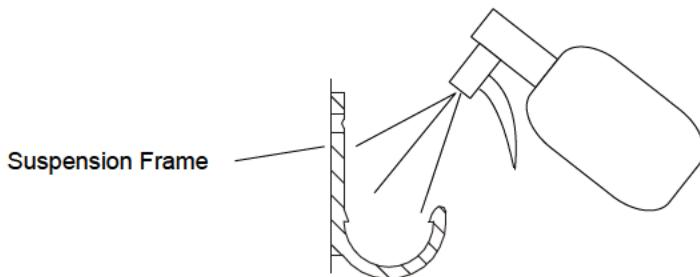

Figure 7-150: Lubricating the Suspension Frame
2. Apply a lubricant (soap spray, etc) into the suspension frame, as shown in Figure 7-150.